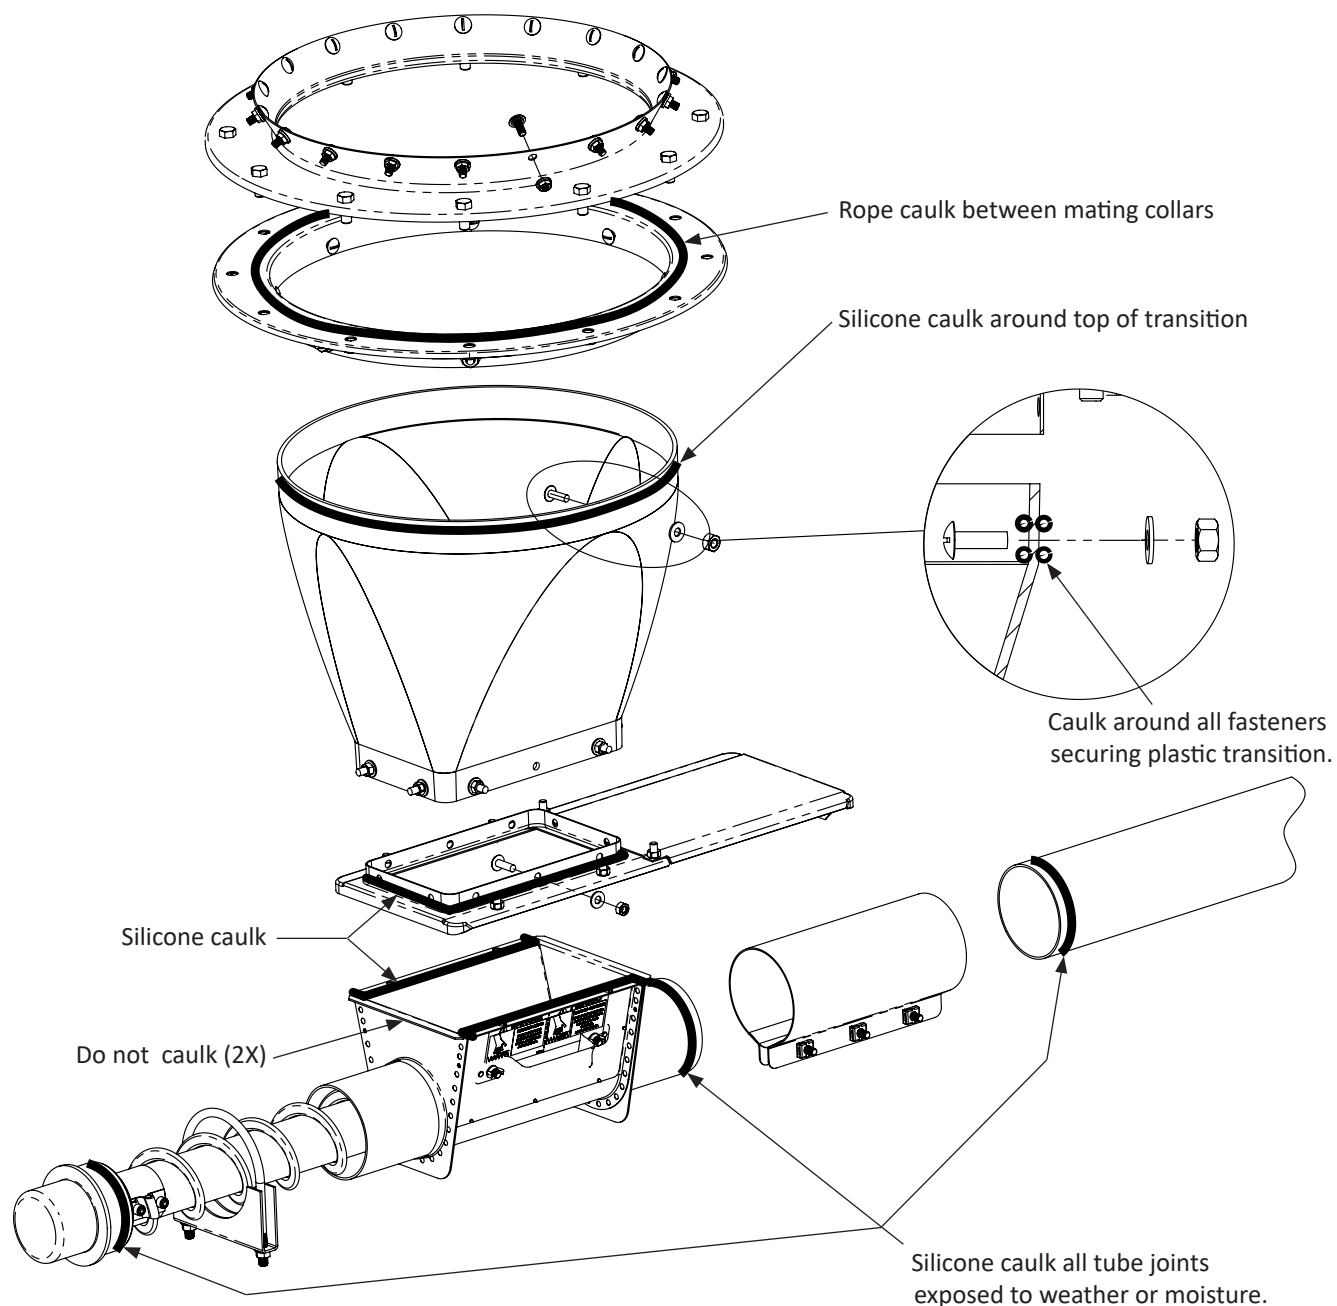

Figure 16
- There must be bead of caulk sealing each hardware hole as shown in Figure 16, detail view.